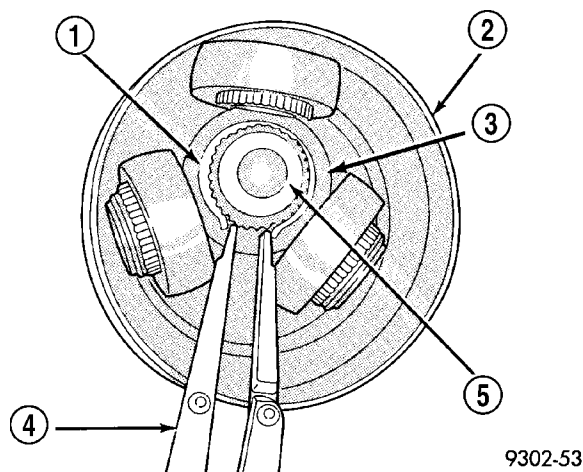
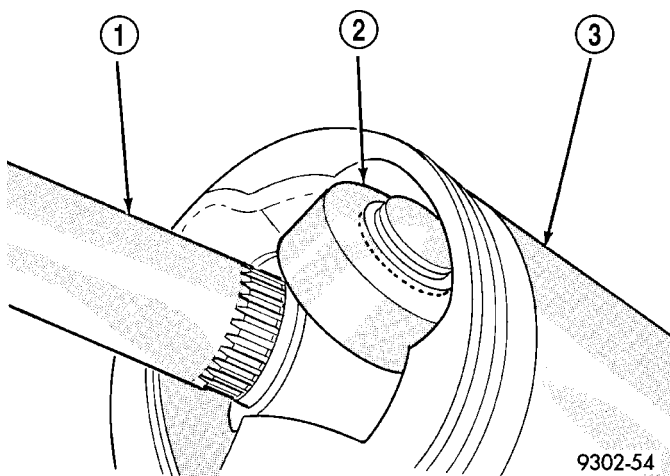

Fig. 25 Spider Assembly Retaining Snap Ring
Fig. 26 Spider Assembly Installed in Housing
(2) Install the spider assembly onto the interconnecting shaft. Spider assembly must be installed on interconnecting shaft far enough to fully install the retaining snap ring. If spider assembly will not fully install on interconnecting shaft by hand, it can be installed by tapping the spider body with a brass drift. **Do not hit the outer tripod bearings in an attempt to install spider assembly on interconnecting shaft.**
(3) Install the spider assembly to interconnecting shaft retaining snap ring into groove on end of interconnecting shaft (Fig. 25). Verify the snap ring is fully seated into groove on interconnecting shaft.
(4) Distribute 1/2 the amount of grease provided in the seal boot service package (DO NOT USE ANY OTHER TYPE OF GREASE) into tripod housing. Put the remaining amount into the sealing boot.
(5) Slide the spider assembly and the interconnecting shaft into the tripod joint housing (Fig. 26).